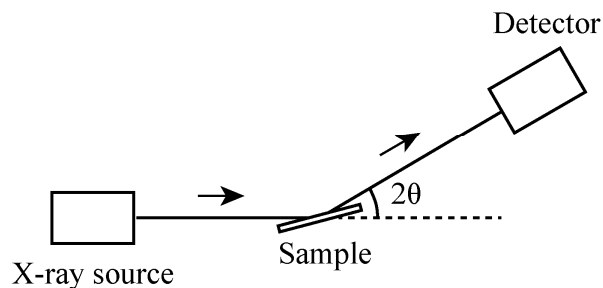
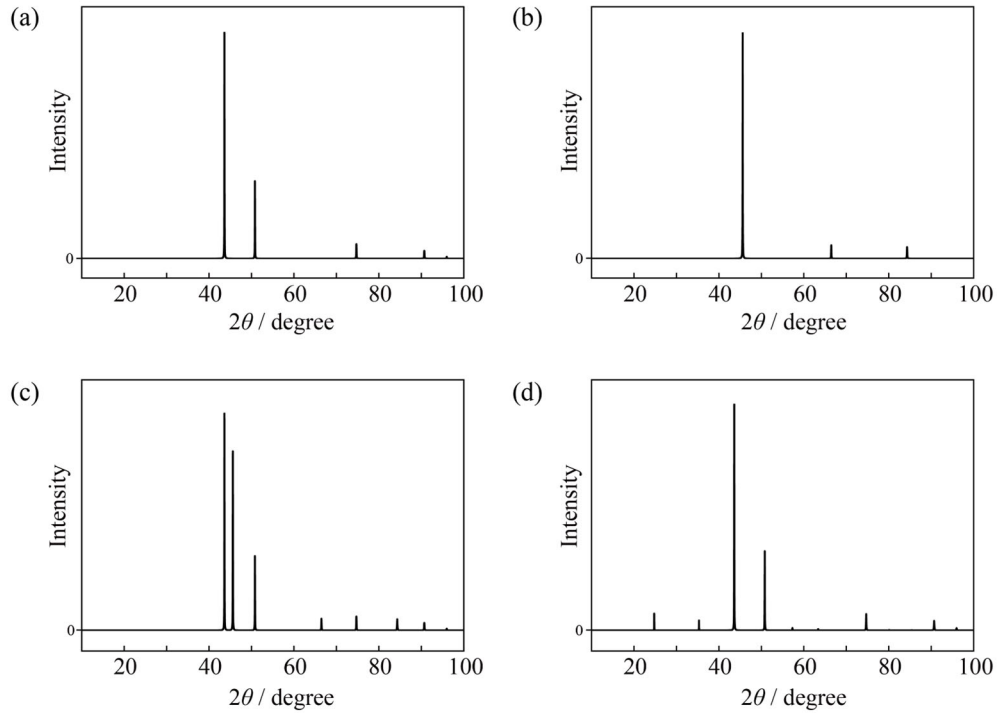

Figure 4
Figure 6
- (2) Using the geometry shown in Figure 4, X-ray diffraction measurement on a powder sample of the γ phase was performed using X-rays with a wavelength of 0.154 nm. Calculate the values of 2θ for all Bragg reflections observed at angles lower than $2\theta = 55^\circ$ with three significant digits.
- (2) Using the geometry shown in Figure 4, X-ray diffraction measurements were performed on powder samples using X-rays with a wavelength of 0.154 nm. A-B binary alloy samples were prepared under various conditions, resulting in the powder X-ray diffraction patterns shown in Figure 6. Select the appropriate powder X-ray diffraction patterns for samples synthesized under the following two conditions. The lattice constant is independent of the composition of the α phase and β phase.